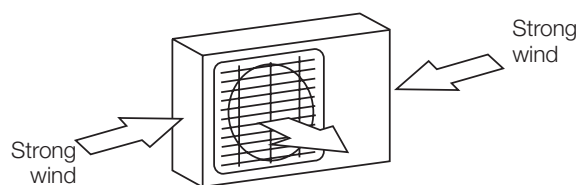
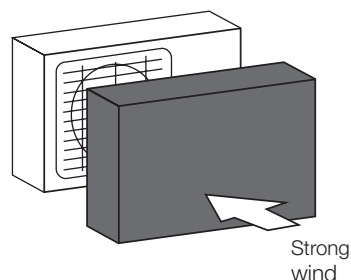

Fig. 5.1
Fig. 5.2
- ✓ If the location is exposed to strong winds (for example: near a seaside), the unit must be placed against the wall to shelter it from the wind. If necessary, use an awning. (See Fig. 5.1 and Fig. 5.2)